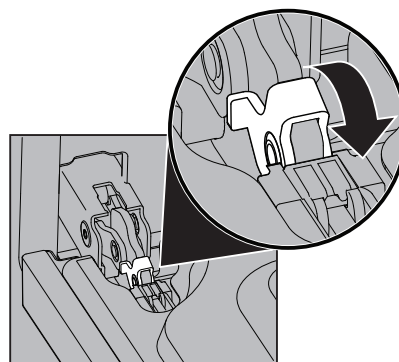

Figure 14: Door hinge lock
2. Pull up the lock located on each hinge support toward front of the oven until the lock stops. You may have to apply a little upward pressure on the lock to pull it up (Figure 14).
4. Push the door hinge locks up toward and into the oven frame on both left and right oven door hinges to the locked position (Figure 14).